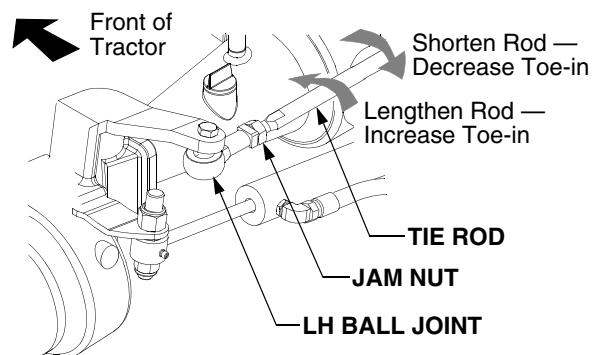

Figure 30
- Loosen the jam nuts at both the LH and RH ball joints. Refer to Figure 30.
- Rearward to shorten the tie rod and decrease the toe-in. See Figure 30.
- Forward to lengthen the tie rod and increase the toe-in. See Figure 30.